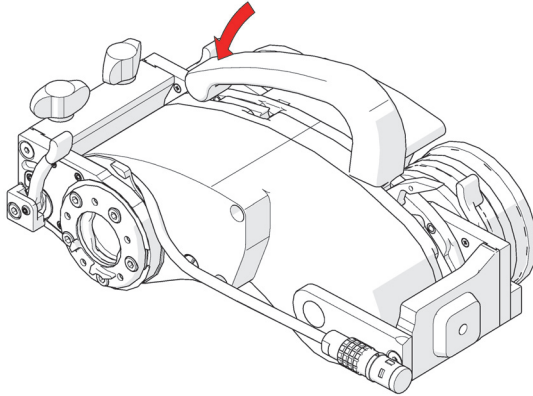

Figure 2-18 Pivot handle nose downward
2. Pivot the handle nose downward (see Figure 2-18 on page 61).